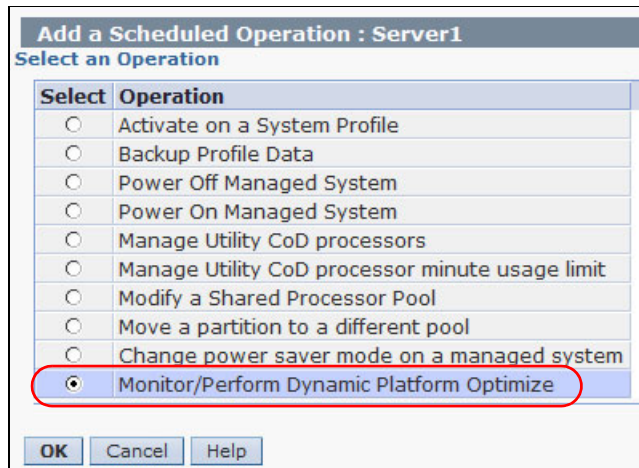

Figure 1-15 Add a Scheduled Operation window
- If the system can perform DPO, a new task, named **Monitor/Perform Dynamic Platform Optimize**, is shown (Figure 1-15). Select that task and then click **OK**.